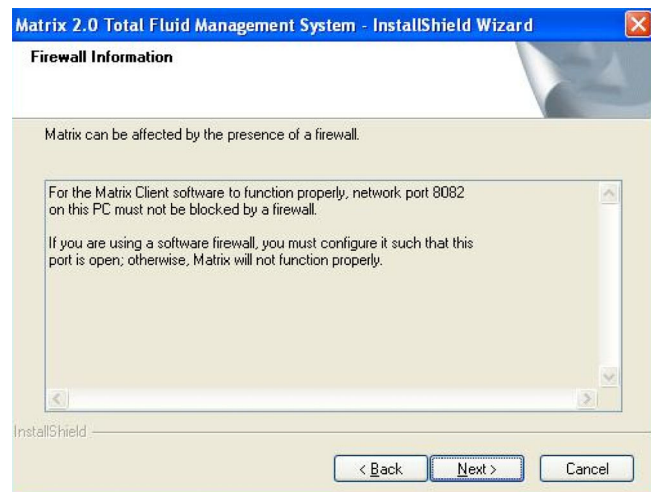

FIG. 29 Setup Path 2 - Firewall Information
- Note firewall configuration settings that may need to be changed for Matrix to function (FIG. 29). Click **Next**.